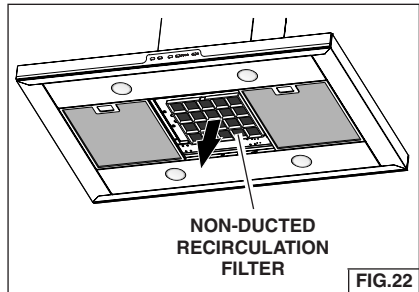

FIG.22
1. To remove the CHARCOAL filter, grip and push filter tab toward rear of hood. Pull the filter down to disengage the rear filter tabs. Fig. 22.